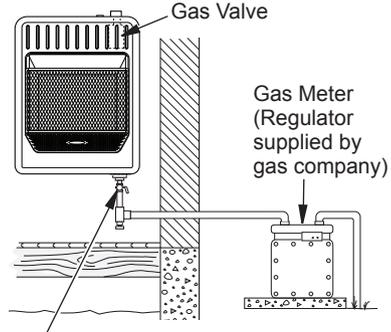

Figure 14 - Natural Gas Supply
3. Check all joints from gas supply to equipment shutoff valve (see Figure 14 or 15). Apply a noncorrosive leak detection fluid to all joints. If bubbles form, there is a leak.
4. Check all joints from equipment shutoff valve to control valve (see Figure 14 or 15). Apply a noncorrosive leak detection fluid to all joints. Bubbles forming show a leak.